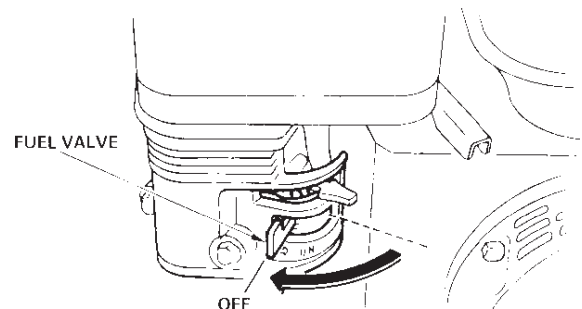

Figure 31. Fuel Valve Lever (OFF Position)
- The best method for finishing concrete is to slowly walk backwards (Figure 31) with the trowel, guiding the trowel from side to side. This will cover all footprints on wet concrete.
- Close the **fuel shut-off valve** (Figure 31) by moving the fuel valve lever to the **OFF** position.